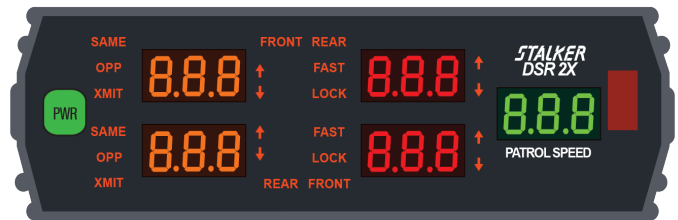

Figure 25
Only 2 front strongest and faster targets in either direction of travel can be tracked. In Figure 25 the strongest target (53) is approaching, indicated by the down arrow, and the fastest target (60) is going away, indicated by the up arrow.